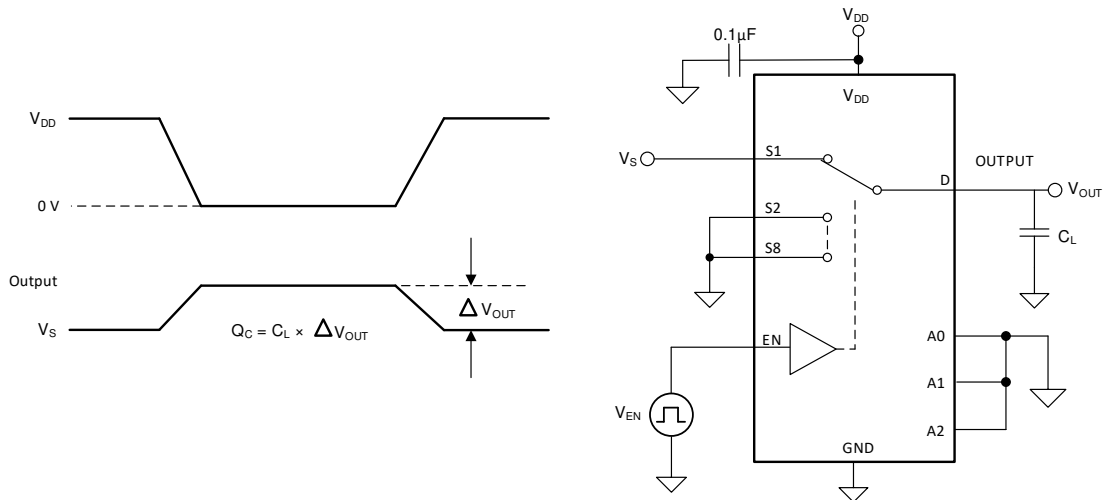

Figure 7-7. Charge-Injection Measurement Setup
The TMUX1208-Q1 has a transmission-gate topology. Any mismatch in capacitance between the NMOS and PMOS transistors results in a charge injected into the drain or source during the falling or rising edge of the gate signal. The amount of charge injected into the source or drain of the device is known as charge injection, and is denoted by the symbol  $Q_C$ . Figure 7-7 shows the setup used to measure charge injection from source (Sx) to drain (D).